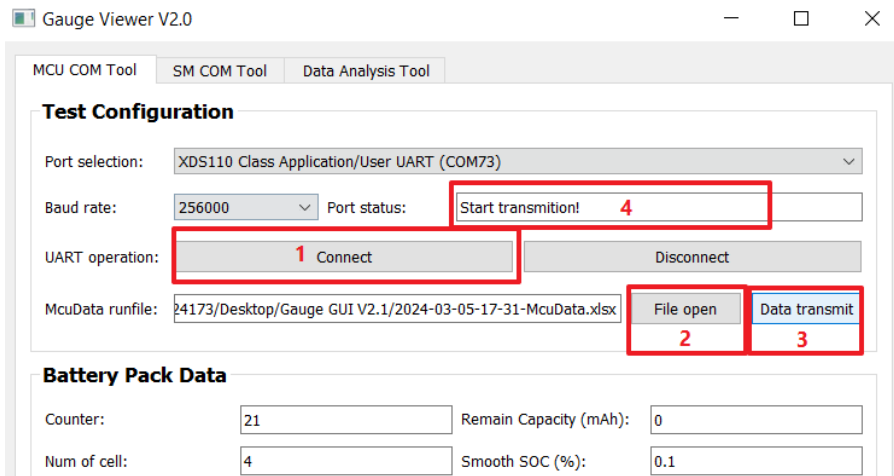

Figure 4-14. Communication Data Input Steps
4. Forth, connect the UART COM port following Figure 4-14 and load the MCUData runfile in MCU COM Tool by clicking the File open button. After clicking the Data transmit button, you need to wait until the port status changes to "Start transmit ion!". The data load time and excel save time will be long if the file is very large. It would be 5~10 minutes.